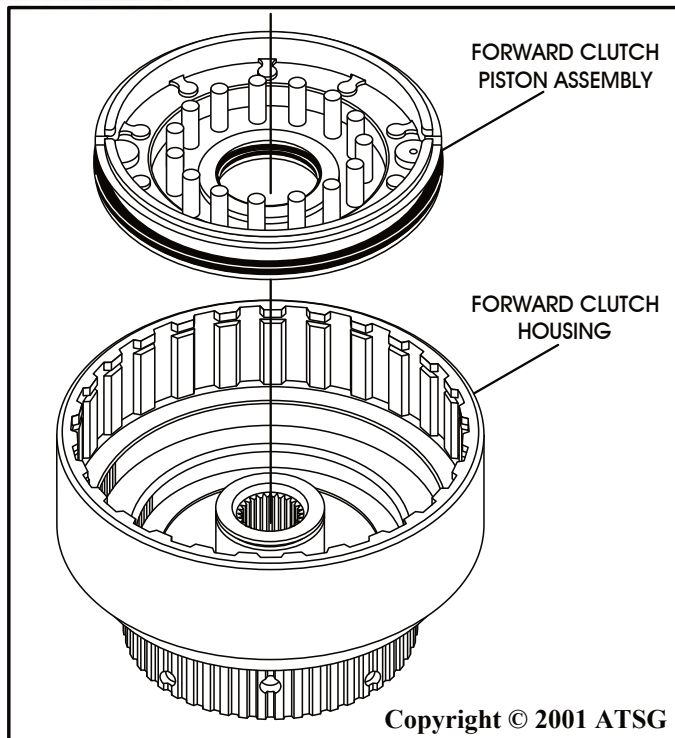

Figure 86
8. Lubricate both seal surfaces with small amount of Trans-Jel® and install the forward clutch piston with a twisting motion, using care so as not to damage the seals (See Figure 86).